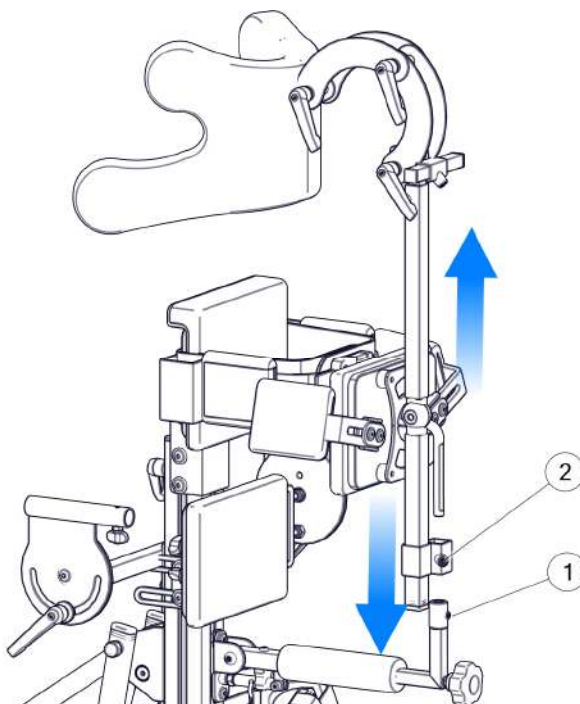

Fig. 38
Fig. 38 Prior to fixing the head support for prone stabilization, remove the upper part of the back support by loosening the screw (1). Place the head support on the adapter of the back support and then tighten the head support with a screw (2).